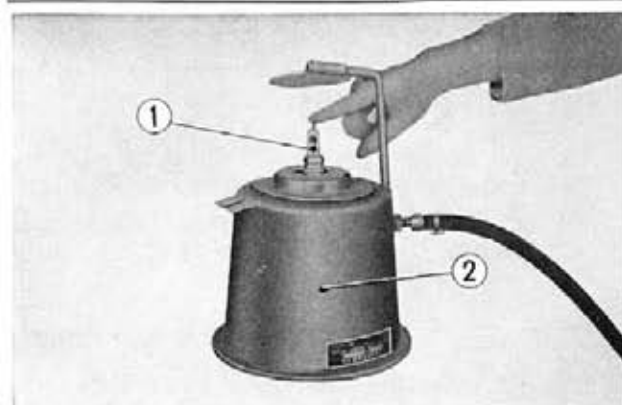

Fig. 7-11 ① Spark plug
② Spark plug cleaner
2. Plug cleaning is best performed by spark plug cleaning set, however, lacking this set, a satisfactory job can be performed by using a wire brush or stiff pin to remove the deposits and washing in gasoline. (Fig. 7-11)